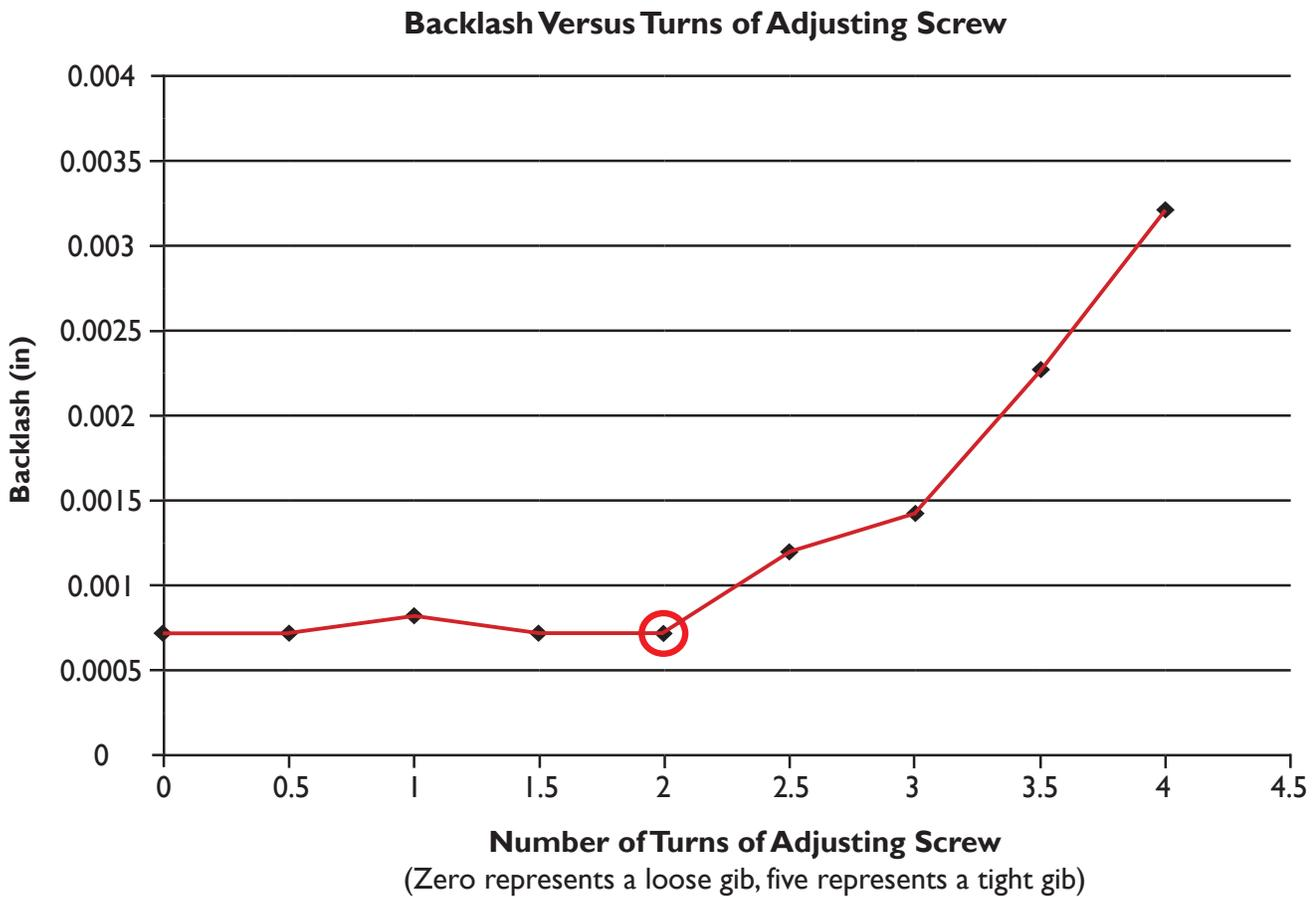

Figure 7.2
- Back the adjustment off to the point just before you saw the increased backlash. That is the ideal setting for the axis (see **Figure 7.2**).